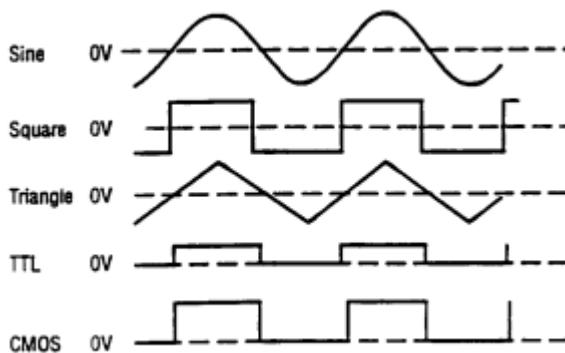

Figure 2. Output Waveform and Phase Relationship
1. Initially, verify that the **DUTY CYCLE** (2), **CMOS LEVEL** (3), **DC OFFSET** (4), **-20dB** (5), and **SWEEP EXT/INT** (22), and **AM/FM** (35) switches are in the released position. This will produce a symmetrical waveform unaffected by the sweep generator and other controls.
2. Plug the unit into an appropriate power source and turn it on by depressing the **POWER** switch (1).
3. Select the desired waveform (SINE, SQUARE, or TRIANGLE) by depressing one of the **FUNCTION** switches (9). Phase relationships of the waveforms are shown in Fig. 2.
4. Select the frequency of the waveform by depressing one of the **RANGE** switches (6). The output frequency is displayed, along with the appropriate measurement units. **KHz** or **Hz** (31), on the LED display.
5. Rotate the **COARSE** (28) frequency control to quickly set the output frequency to the approximate desired value. The **FINE** (26) frequency control can then be used to easily set the output to the specific desired value. The frequency selected is available at the **OUTPUT** jack (13). In addition, a digital signal, either TTL or CMOS is available at the **TTL/CMOS** jack (15) (refer to the “**TTL/CMOS OUTPUT**” section of this manual).